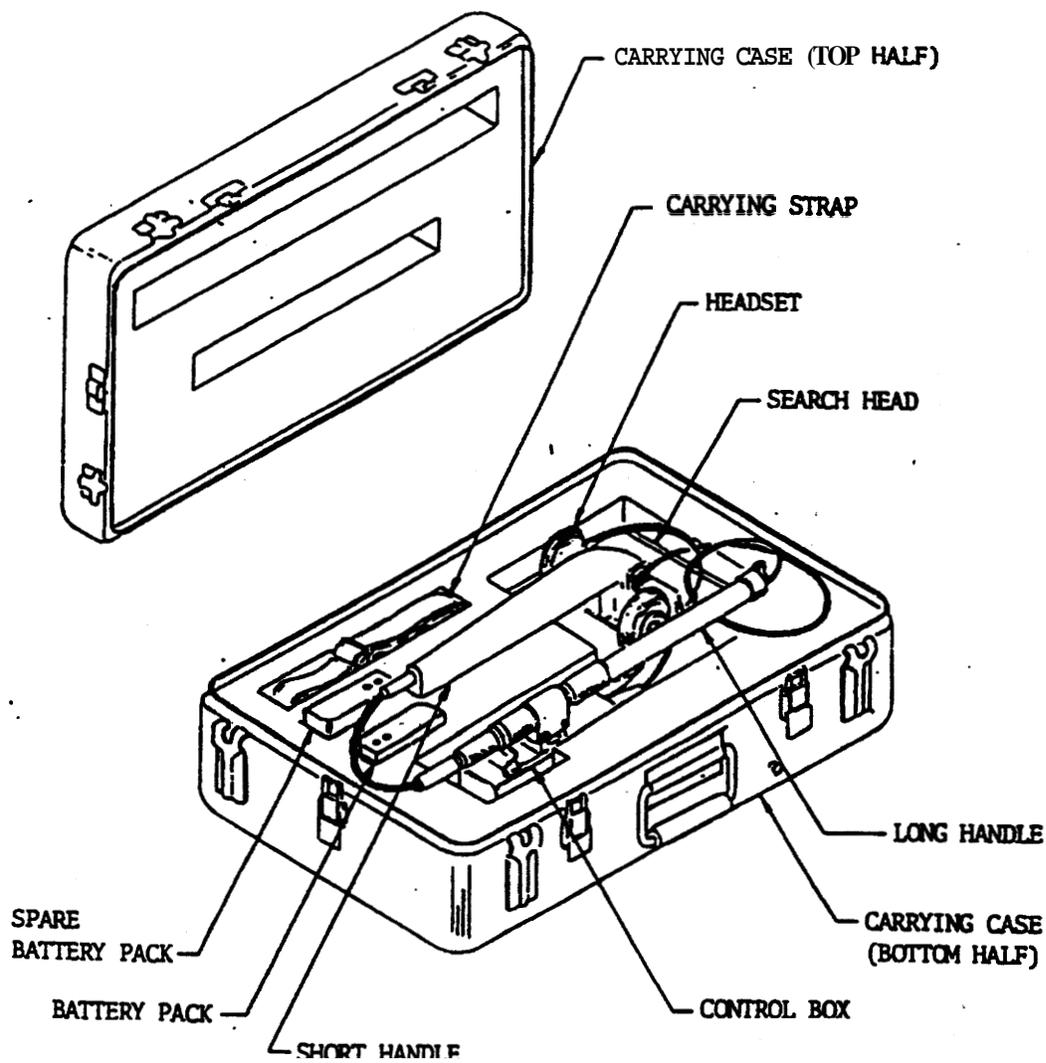

Figure 1-1. Mine Detecting Set, Model 156-PMD
a. General Information. The Mine Detecting Set, Model 156-PMD, shown in figure 1-1, consists of a mine detector, carrying case, carrying strap, one battery pack for use in the mine detector, and one spare battery pack. These components are described in the following paragraphs.
- (1) If the carrying strap is attached, unhook it at top and bottom.
- (2) Collapse the long handle, using the same procedure as for handle extension but in reverse order, i.e. starting at the bottom collet (smallest diameter)
- (3) Detach long handle from the short handle by pushing down and twisting the coupling 1/4 turn counterclockwise.
- (4) Remove the battery pack from the control box. (See paragraph 2-1.b.)
- (5) Place each item into the compartment allotted to it in the carrying case (figure 1-1).
- (6) Close the carrying case. The top section should fit on evenly and snugly without forcing; if it does not, check for proper placement of the contents, fouled cables etc.
- (7) Secure the six latches.
- (8) Close the air pressure relief valve.